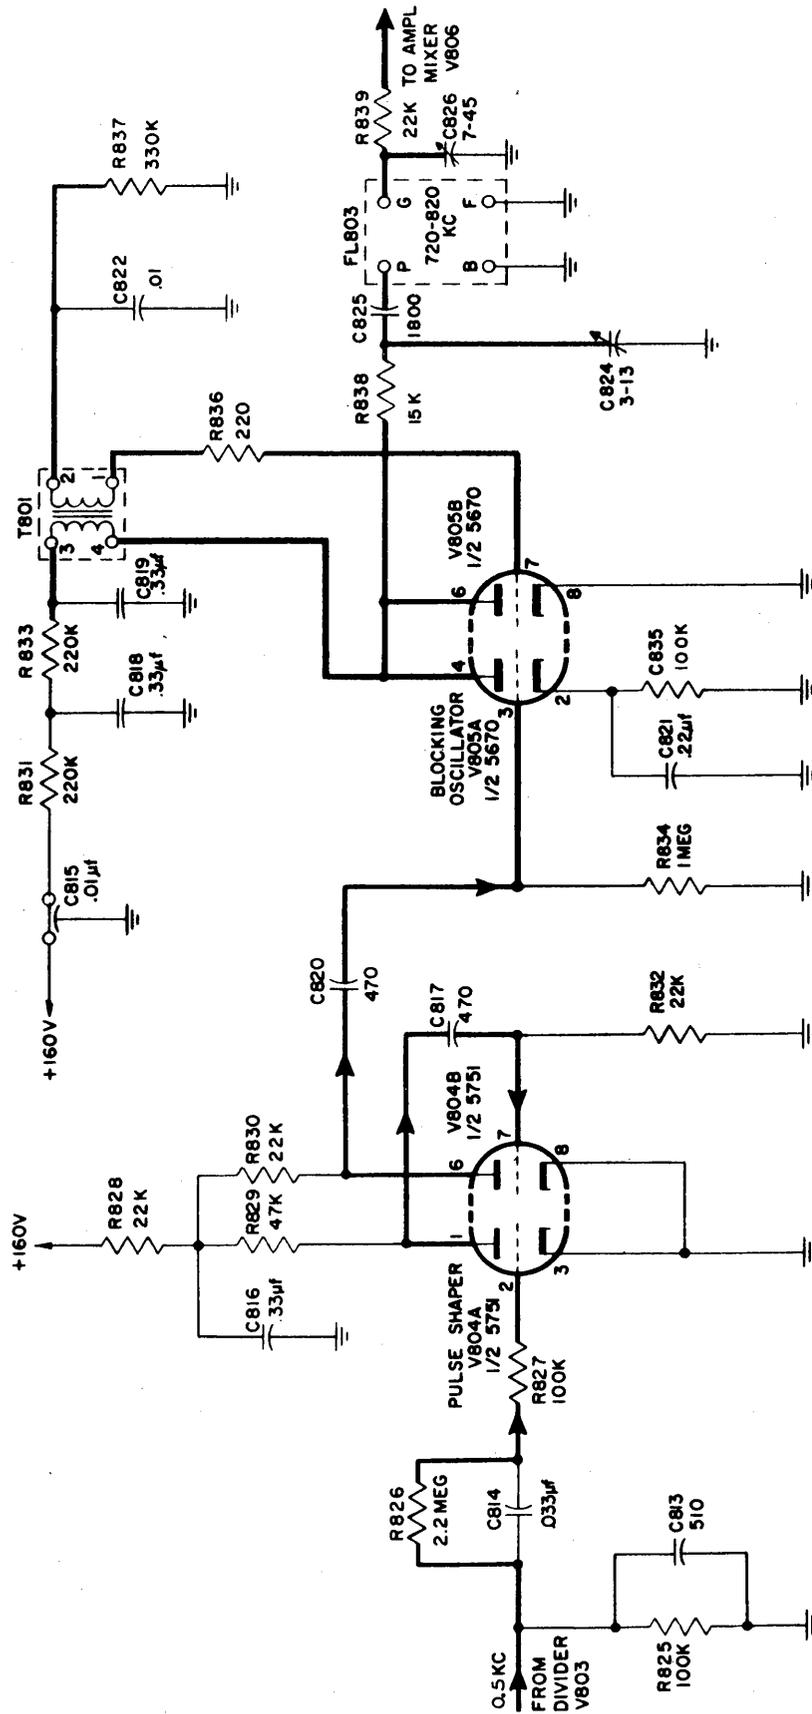

Figure 4-48. Pulse Shaper V804 and Blocking Oscillator V805, Simplified Schematic Diagram
To use this harmonic spectrum with the variable frequency output of interpolation oscillator V401 (see par. 4-14), a bandpass filter with a 100 kc bandwidth in the range of 720 kc to 820 kc (FL803, figure 4-48) is connected to the output of blocking oscillator V805.
d. PULSE SHAPER V804, BLOCKING OSCILLATOR V805. (See figure 4-48.)—Triggered by pulse shaper V804, blocking oscillator V805 produces sharp pulses, ranging in 0.5 kc steps from a fundamental 0.5 kc to beyond its 820th harmonic. A portion (720 kc to 820 kc) of this spectrum provides harmonics to be mixed in the injection IF amplifier with signals from variable-output interpolation oscillator V401 to produce a difference frequency of 140 kc for use in the development of the final receiver IF of 80 kc.